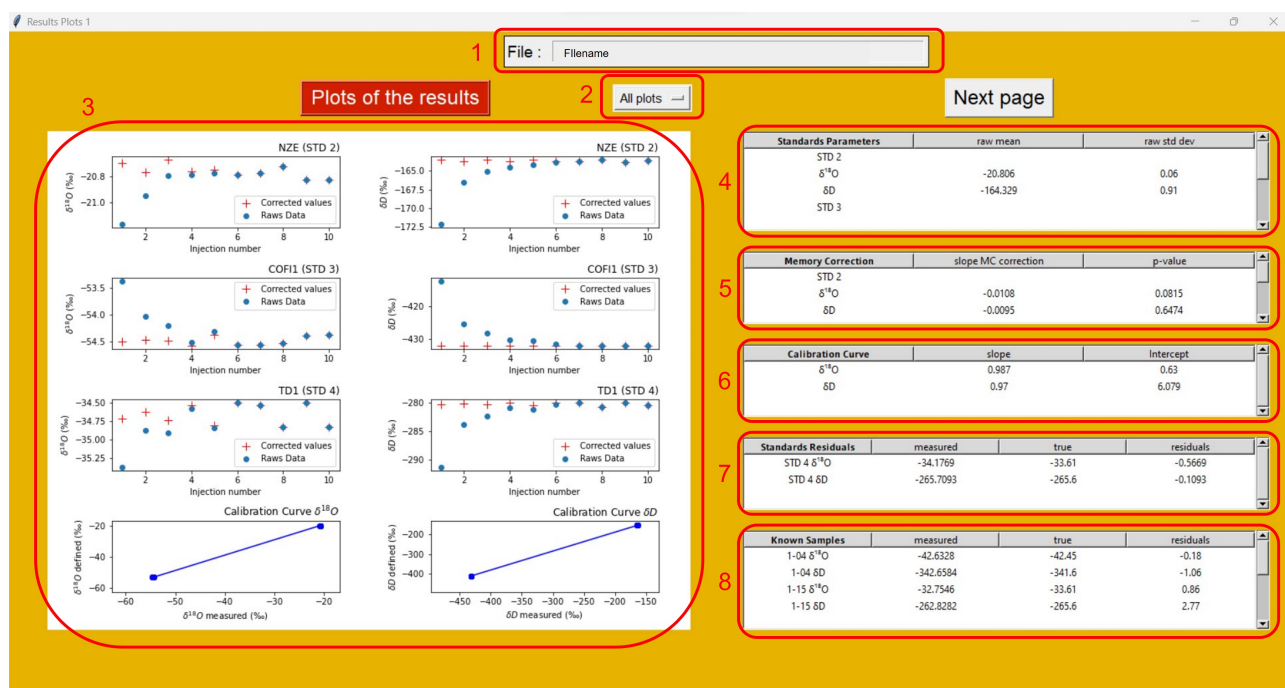

Figure 3: Screenshot of the first page of results of ALWIC-tool
When the processing button is pressed and all the calculation done, a new window appears. It looks like fig. 3. The parameters of the correction are shown on this page.
- 2 : When this is set to all plots the page looks like the figure 3. But if you choose an other plot, the tables on the right will be overwritten to put a zoom on the plot you selected. To view again the tables, select all plots.